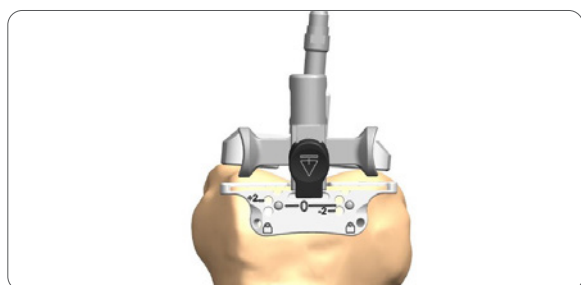

Figure 74
4. Using non-headed 65mm pins, pin the distal femoral cutting block to the anterior femur using the holes marked '0'. Once adequate distal femoral resection is noted, a headed or non-headed 65mm pin should be placed in one or both oblique pin holes for additional stability (**Figure 74**).